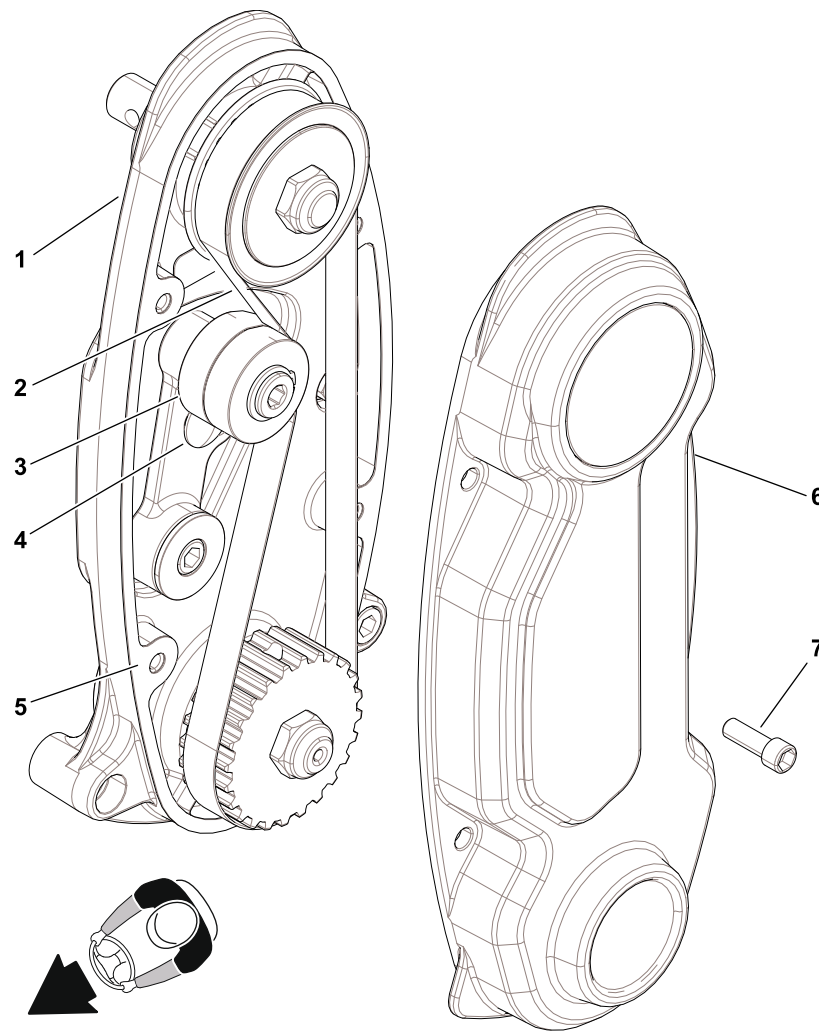

Figure 12
2. Remove the 4 socket head screws (7) that secures the reel drive cover (6) to the reel drive assembly (1) and remove the reel drive cover to expose the reel drive belt (2).
3. Check the reel belt (item 2 in Figure 12) tension by depressing at mid span between pulleys with **18 to 22 N (4 to 5 lbs)** of force. The belt should deflect **6.35 mm (0.25 inch)**. If deflection is incorrect, proceed to next step. If deflection is correct, continue operation.